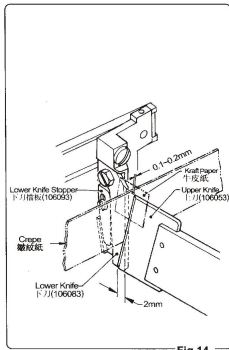

Fig.14
NOTE: The gap adjustment can be easily made by placing a sheet of kraft paper between the upper and lower blades, as shown in (Fig. 14).
d) Adjust the overlapped depth of the upper and lower blades by changing the length of a cylinder rod end so that the distance between the upper face of the lower blade and the rear side of the upper blade becomes 2mm, as shown in (Fig.14).
* 如圖13所示，先松開螺母 ②、再將螺釘 ③ 旋轉 1/8 圈之後，試着再一次切斷廢放線或織袋。如若切斷仍不理想，請再將螺釘 ③ 旋轉 1/8 圈進行調整。依此類推直到能切斷為止。然後將螺母 ② 擰定。
* 若出現後端能切斷，而前端不能切斷的現象時，是 a) 項的調整不充分的緣故。請再一次用螺釘 ③ 進行調整。將上刀與下刀的前端側彼此接觸，然後將間隙設定為 0.1-0.2mm。另外，在初期時若出現下刀離刀的情況時，請松開螺母 ②，將螺釘 ③ 順時針方向轉動，增強彈簧的壓力。